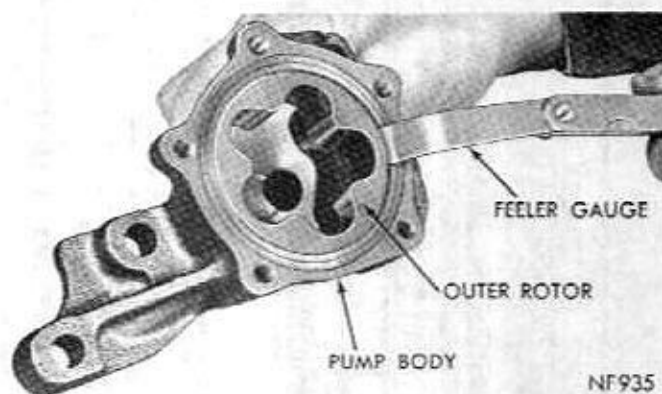

Fig. 50—Measuring Outer Rotor Clearance
(6) Install outer rotor into pump body, pressing to one side with fingers and measure clearance between outer rotor and pump body (Fig. 50). If measurement is more than .014 inch, replace oil pump body.
(7) Install inner rotor and shaft into pump body. If